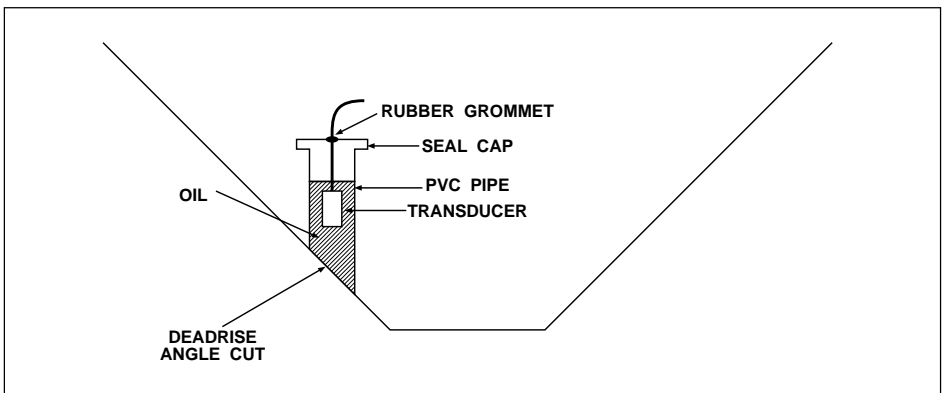

Figure 7. In-Hull Installation
5. Install the transducer as shown in Figure 7.